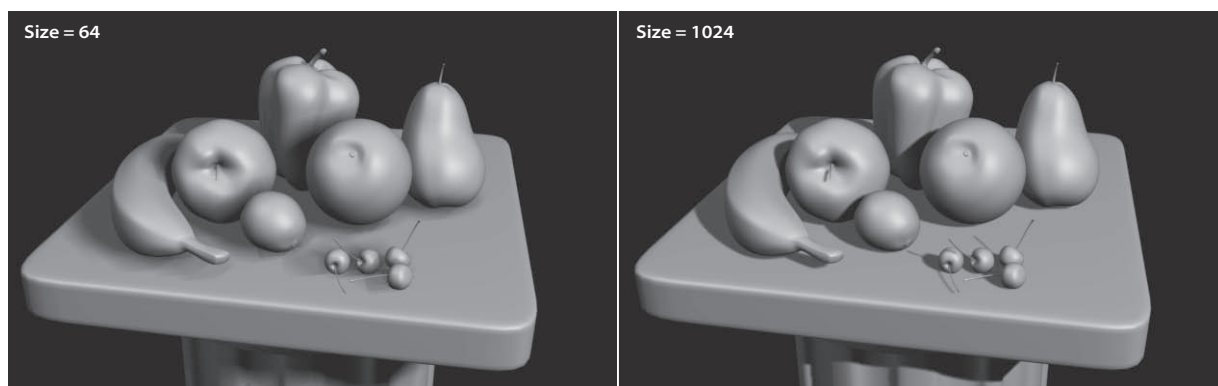

Figure 10.42
**Size**—Detailed shadows will need detailed Shadow Maps. Increase the Size value, and 3ds Max will increase the number of subdivisions for the map which in turn increases the detail of the shadow cast. Figure 10.42 compares Shadow Map sizes of 64 and 1024. Notice how the shadows on the left (Size = 64) are mushy and barely